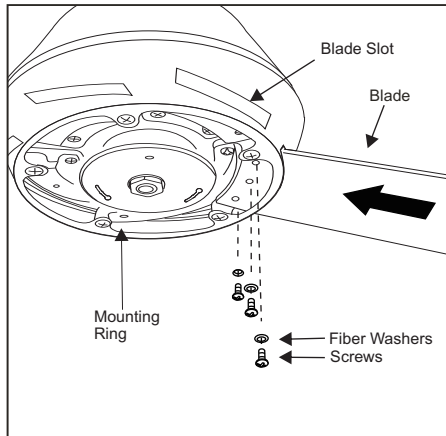

Figure 17
1. Attach the fan blades to the motor assembly using the screws and fiber washer provided, tighten screws securely.(Figure 17)
2. Align motor holes to blade and secure with screws provided, tighten screws securely. Repeat procedure with remaining blades. (Figure 17)